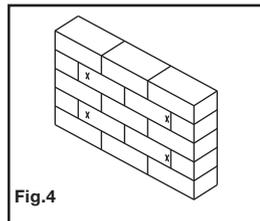

Fig.4
- Drill four 8 mm (5/16") holes in the wall using the template as a guide. Remove any excess dust from the holes (see Fig. 4).